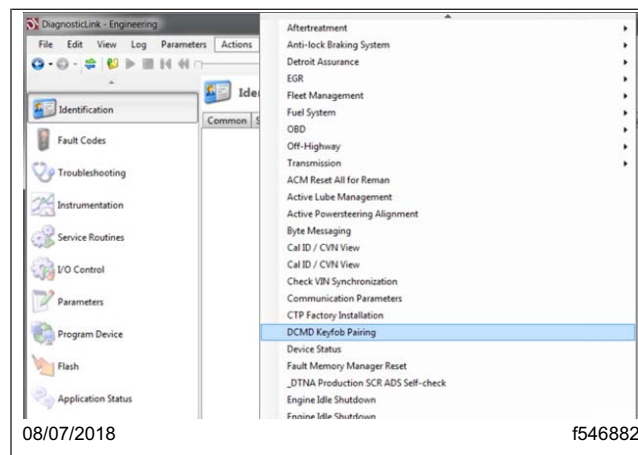

Fig. 1, DCMD Keyfob Pairing Routine
3. Connect the vehicle to DiagnosticLink and select "DCMD Keyfob Pairing" from the "Actions" dropdown menu. See **Fig. 1**.